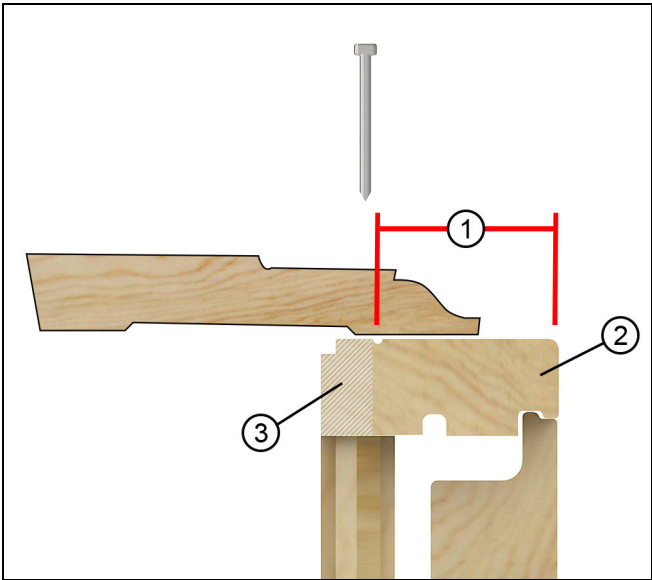

Figure 48 Keep trim fasteners to the outside of the liner kerf.
1. When installing interior trim, keep fasteners between the groove in the jamb liners and the exterior of the frame. Keep the fastener about 1 3/16" (29) away from the interior edge of the interior jamb liner. See Figure 48.